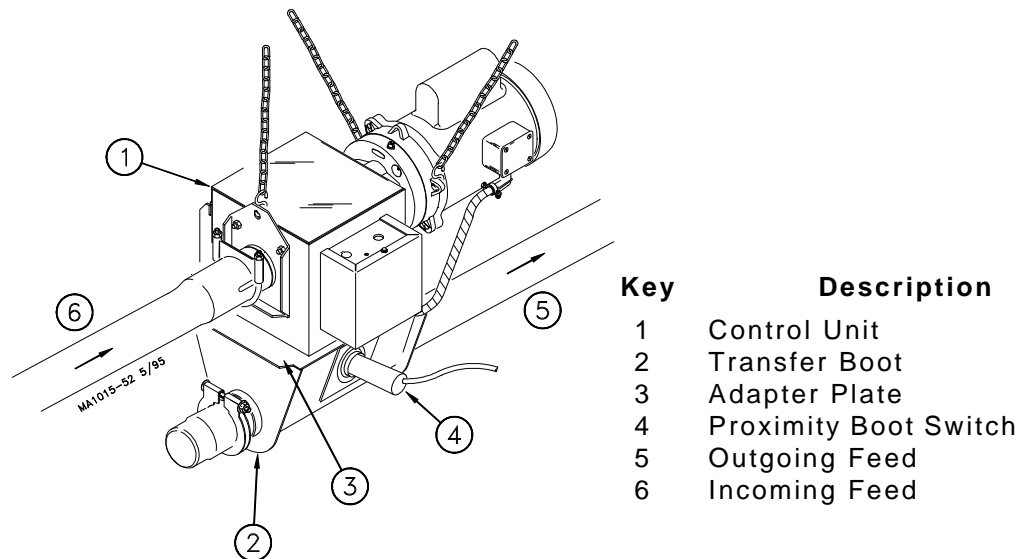

Figure 5. Control Unit/Extension Boot Installation--required for systems over 400 feet (122 m).
7. For lines over 400' (122 m), a Transfer Boot (w/switch), Adapter Plate, and Control Unit are **required**. Install as shown in Figure 5 near the center of the line.